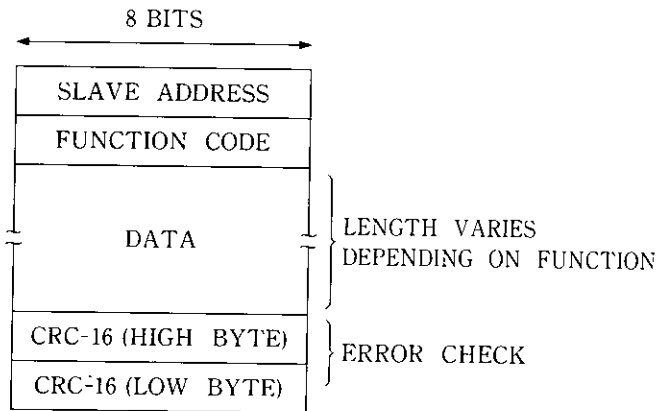

Fig. 6.1 Message Format in RTU Mode
- (1) In RTU mode, the message format should be as shown in Fig. 6.1. The data length and contents vary with the function. The formats of the query and response messages are described below according to the functions. Table 6.1 summarizes the message lengths of the functions.